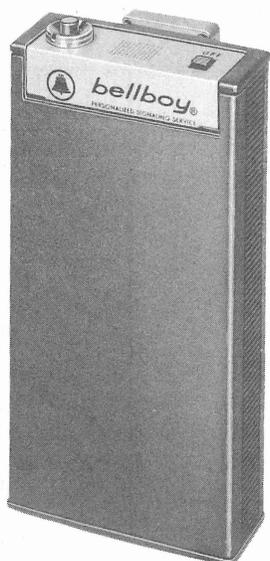

Fig. 5—KS-20432,L1 Receiver
1.22 The KS-20432, L1 BELLBOY radio receiver (Fig. 5) is a 9-1/4-ounce compact unit which can be carried by the customer in a pocket or clipped to a belt. The entire unit consisting of the receiver, rechargeable battery, and coding elements is enclosed in a high-impact plastic case measuring 4-13/16 inches high, 2-3/8 inches wide and 15/16 (excluding pocket clip) of an inch deep.